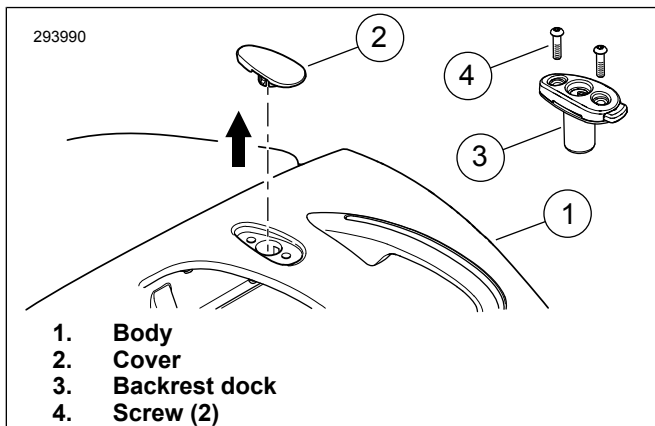

Figure 2. Trim Cover
1. Figure 2 Remove trim covers (2) from body (1).
1. Figure 2 Install backrest docks (3) to body (1).
2. Install two screws (4) for each dock. Tighten.